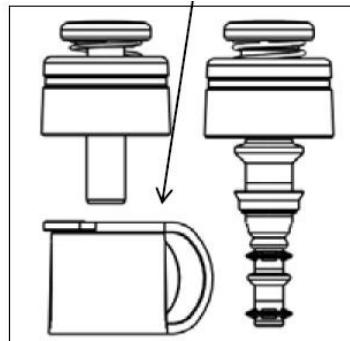

Figure 2
- 11) If using the 3 piece kit (See Figure 2), attach the biopsy valve.